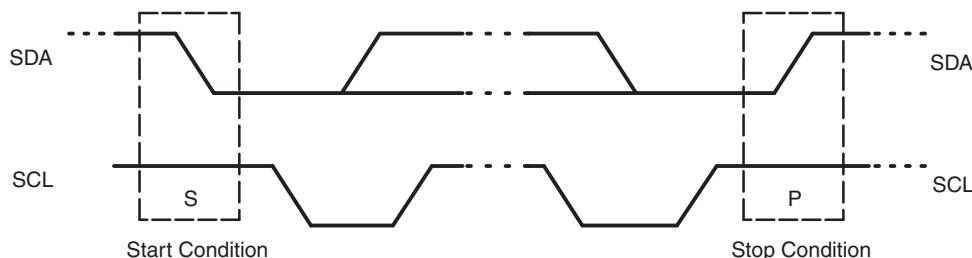

Figure 10. Start and Stop Conditions
Both data and clock lines remain high when the bus is not busy. A high-to-low transition of the data line while the clock is high is defined as the Start condition (S). A low-to-high transition of the data line while the clock is high is defined as the Stop condition (P) (see Figure 10).